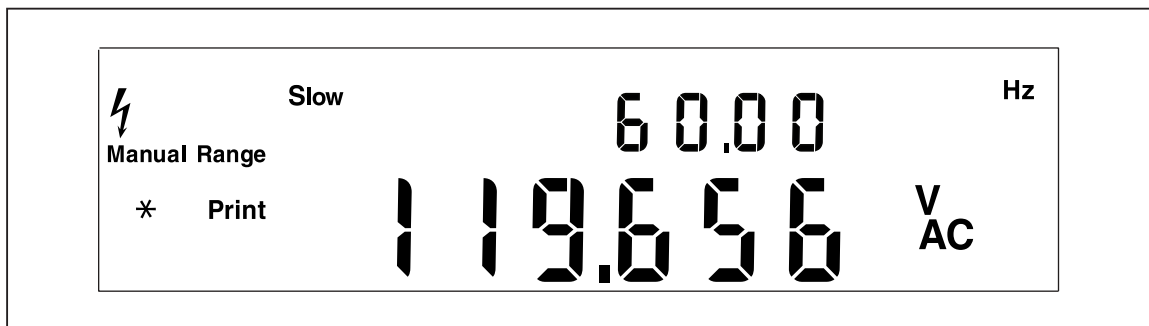

Figure A-1. Example of Dual Display Showing Volts AC and Frequency
5. Insert the test lead probes into a wall socket. The display will appear similar to Figure A-1. The actual display depends on the local power supply.